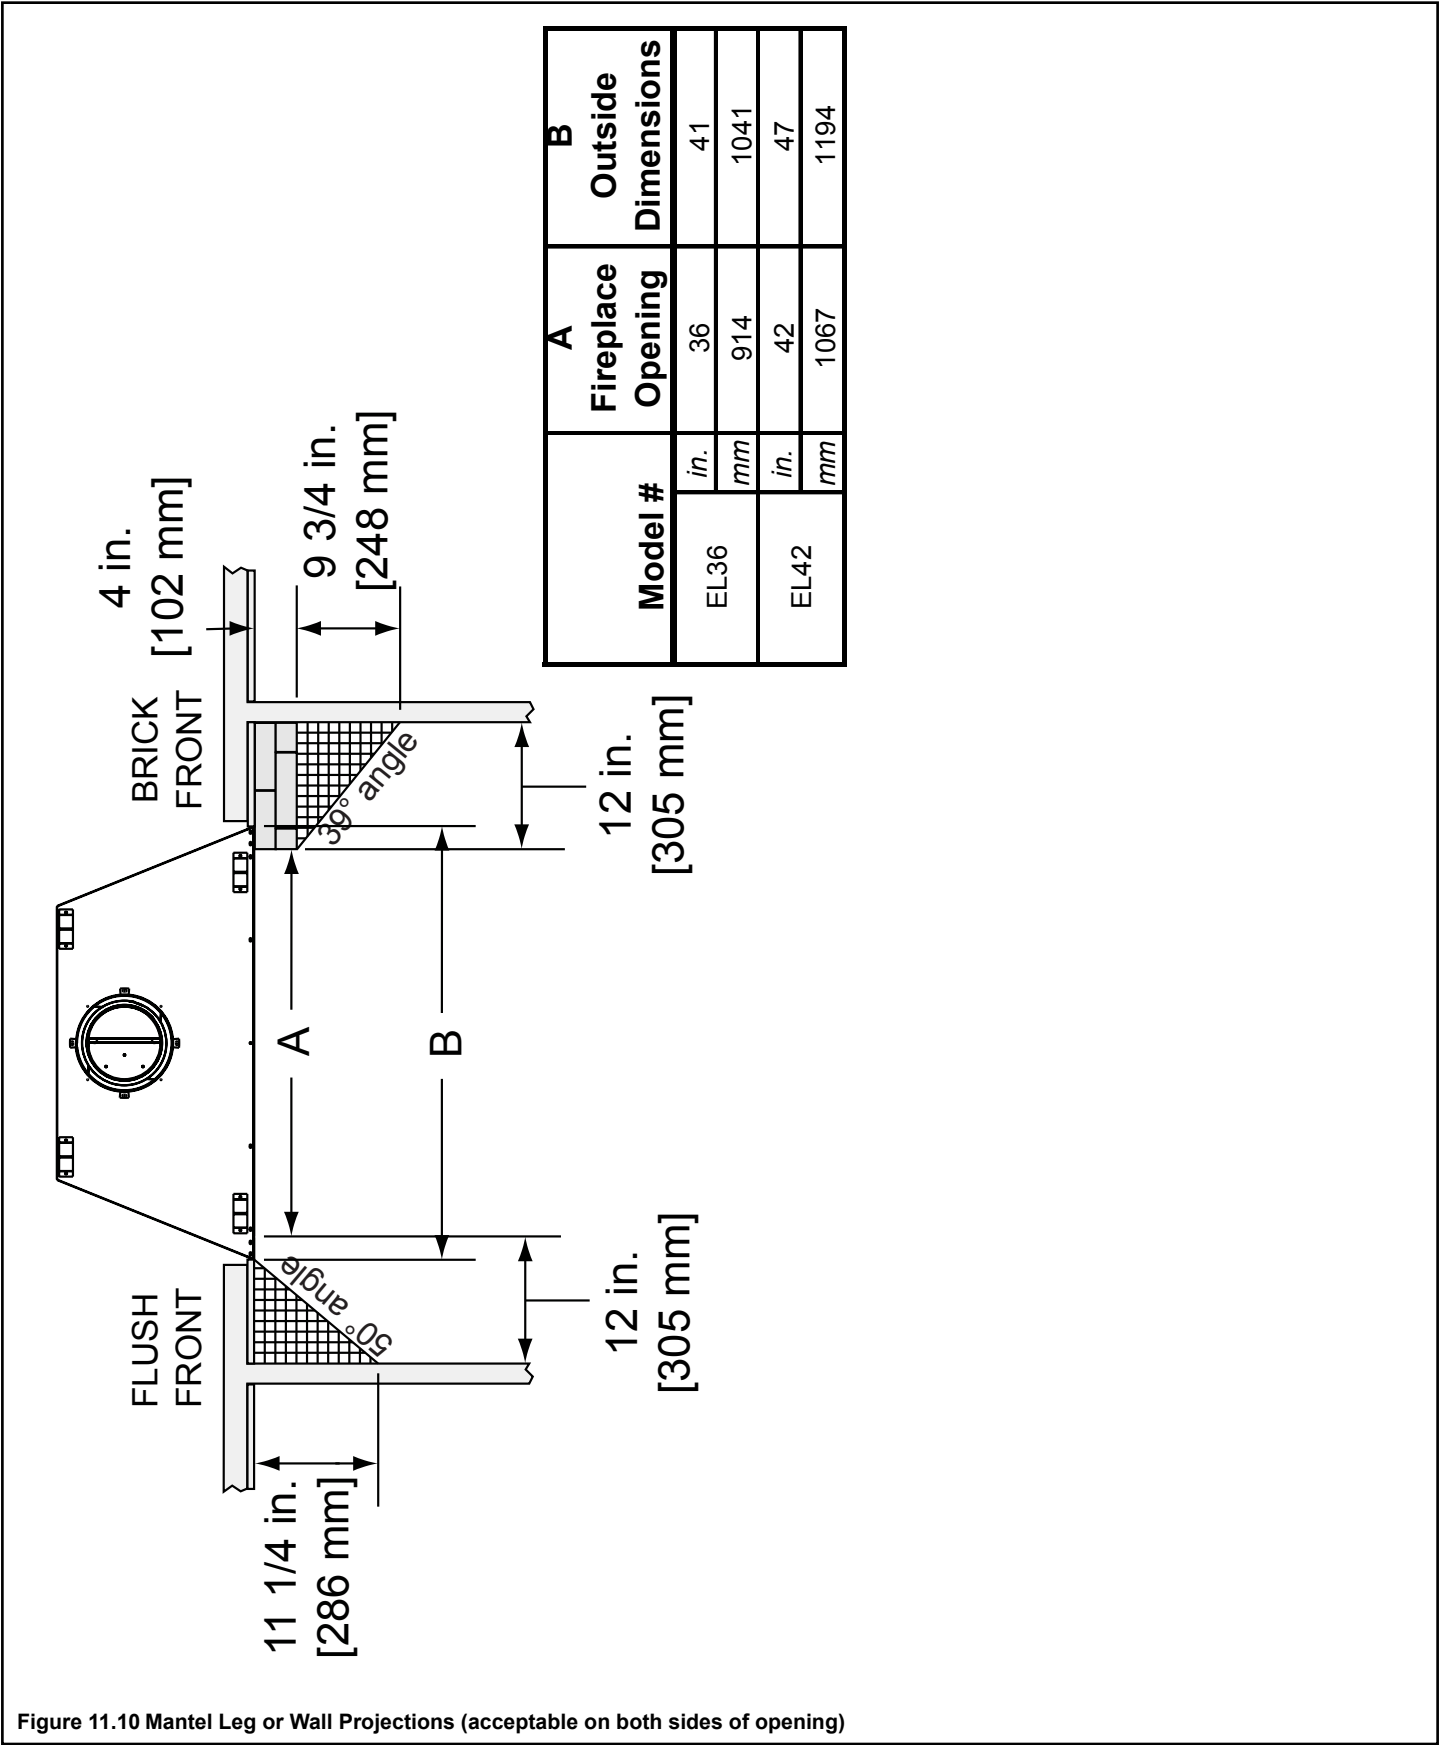

Figure 11.10 Mantel Leg or Wall Projections (acceptable on both sides of opening)
- Combustible or non-combustible mantel legs, surrounds and stub walls may be constructed per Figure 11.10.